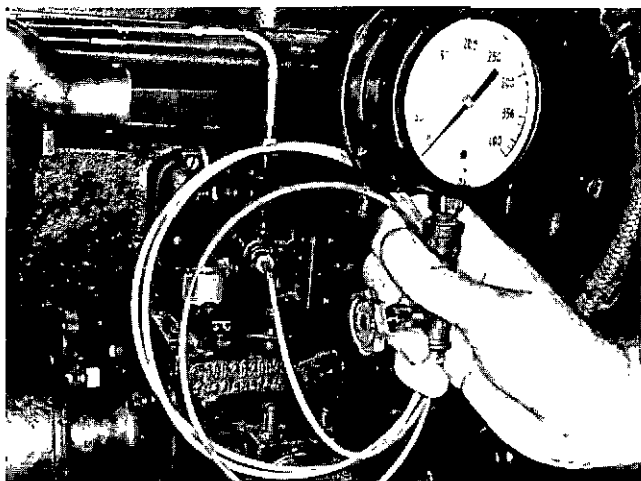

Fig. 2-45 (N11966) Checking fuel manifold pressure with ST-435 Pressure Gauge
5. Check maximum fuel manifold pressure with ST-435. Fig. 2-45. Remove 1/8 inch pipe plug from side of fuel shut-off valve on top of fuel pump. Connect the gauge line in pipe plug hole.